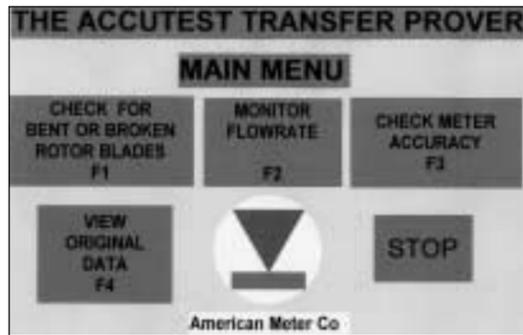

Figure 10 Main Menu
- Turn on the laptop and the power switch of the signal conditioner box which energizes the rotor sensors. From the File Manager screen select the “Accu” directory and then the serial number of the meter to be tested. The executable Main Menu appears, Figure 10.